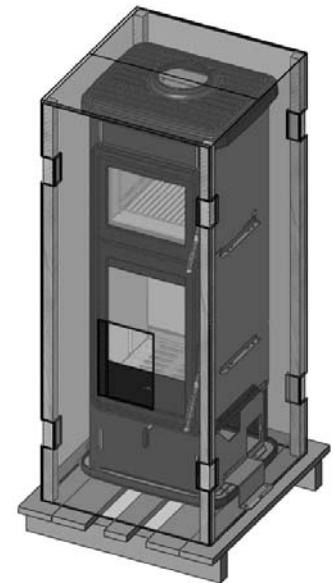

Figure 1 - Sava stove packaging
- one contains the stove (figure 1)